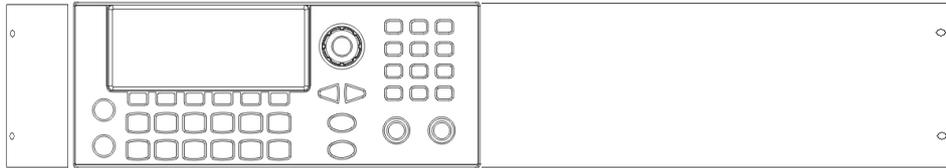

Figure 2-8
- a. This is for mounting a single instrument on the rack as shown in **Figure 2-8**.